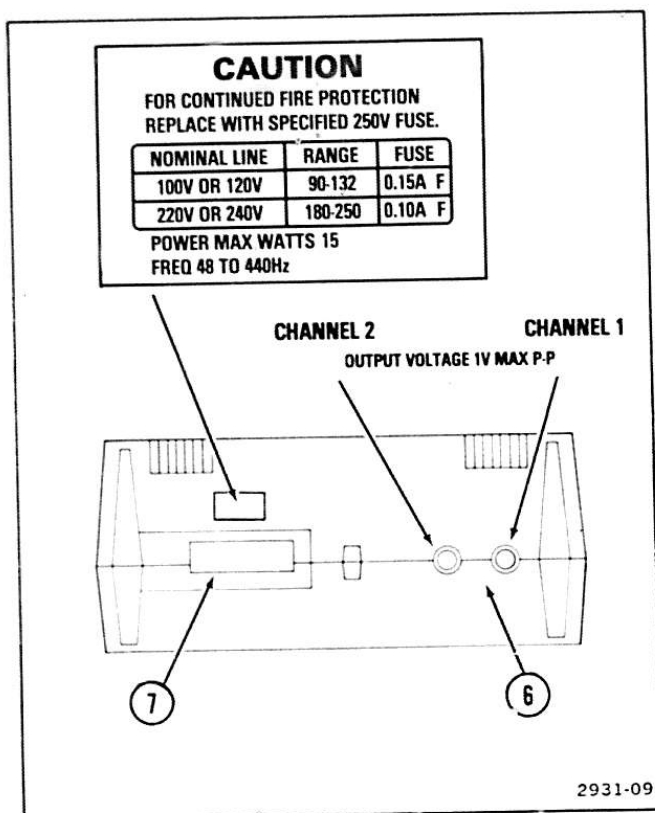

Figure 10. Rear-panel connectors.
Refer to Figure 10 for the location of items 6 and 7.
- ⑥ **Output Connectors**—CHANNEL 1 makes available the output of the Isolator's Channel 1. CHANNEL 2 makes available the output of the Isolator's Channel 2. Both outputs are terminated inside the Isolator, and use of an external termination will reduce signal amplitude.
- ⑦ **POWER Input Connector**—Allows the connection of the ac power cord to the Isolator. The connector is an IEC connector.